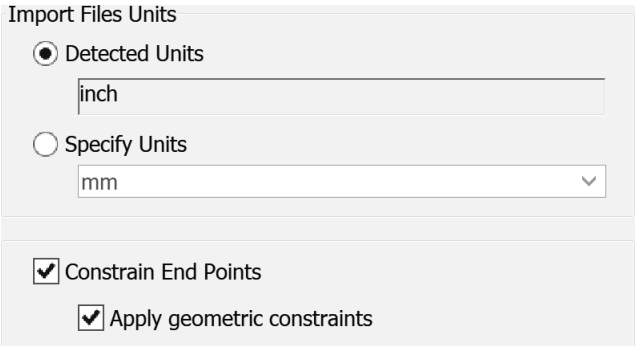

Figure 2.93
- 11 Check the Constrain End Points and the Apply geometric constraints options as shown in Figure 2.93.